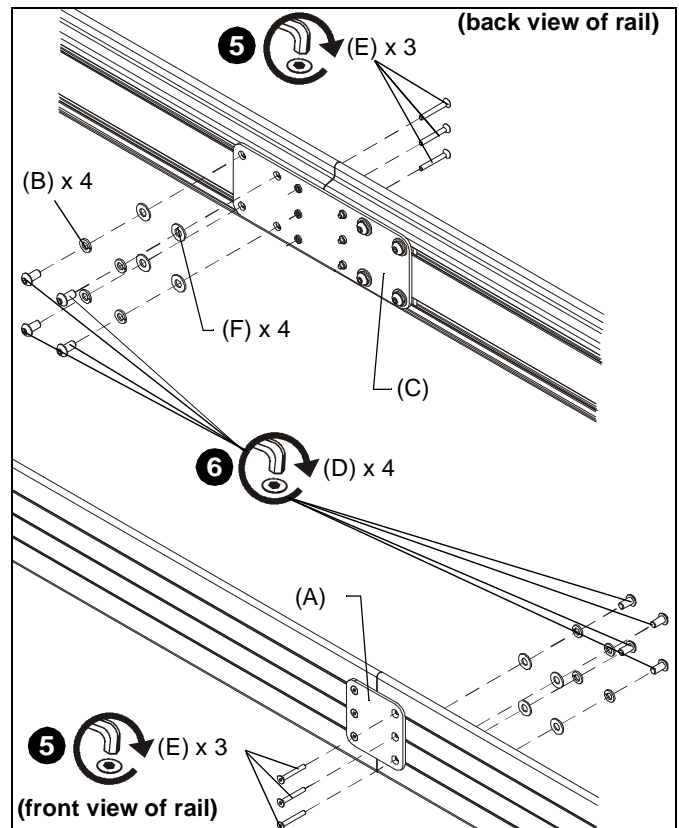

Figure 4
5. Secure connect bracket (A) to front of second section of mounting rail (M) using three 10-24 x 1-1/2" flat head cap screws (E) fastened through one side of connect bracket, mounting rail, tie bars (J) and into connector plate (C). (See Figure 4)
6. Additionally fasten connector plate (C) using four 5/16 x 5/8" button head cap screws (D), four 5/16" split washers (B), and four friction washers (F). (See Figure 4)